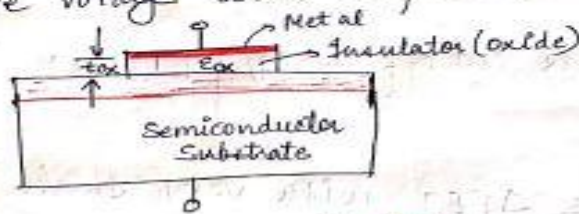

Fig 1: Basic MOS Capacitor Structure.
- The physics of MOS structure is explained using single parallel plate capacitor. (Fig. 1)